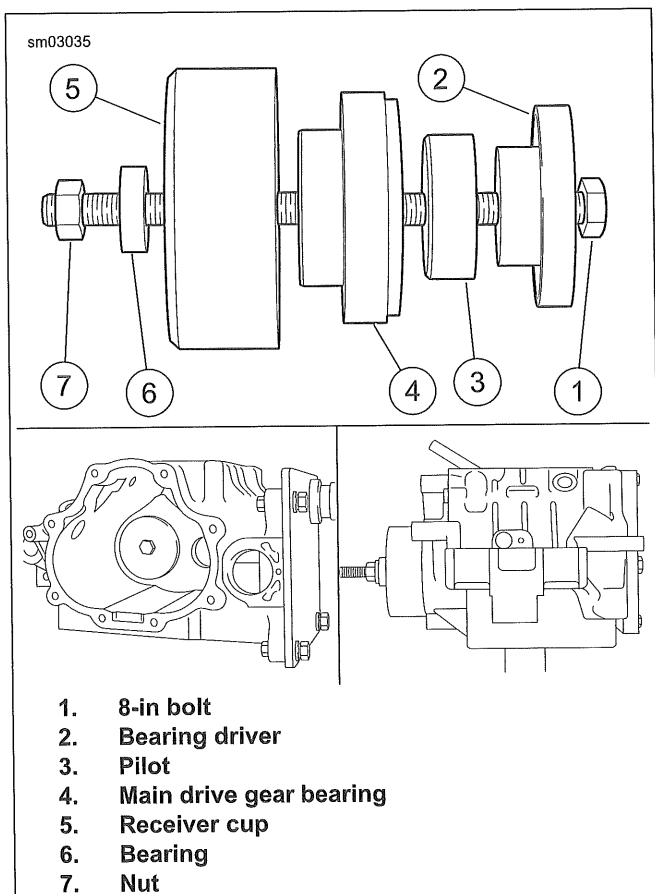

Figure 5-63. Removing Main Drive Gear Bearing
- 5. See Figure 5-63. Remove main drive gear bearing from transmission case using MAIN DRIVE GEAR REMOVER AND INSTALLER SET (PART NUMBER: HD-35316-D).